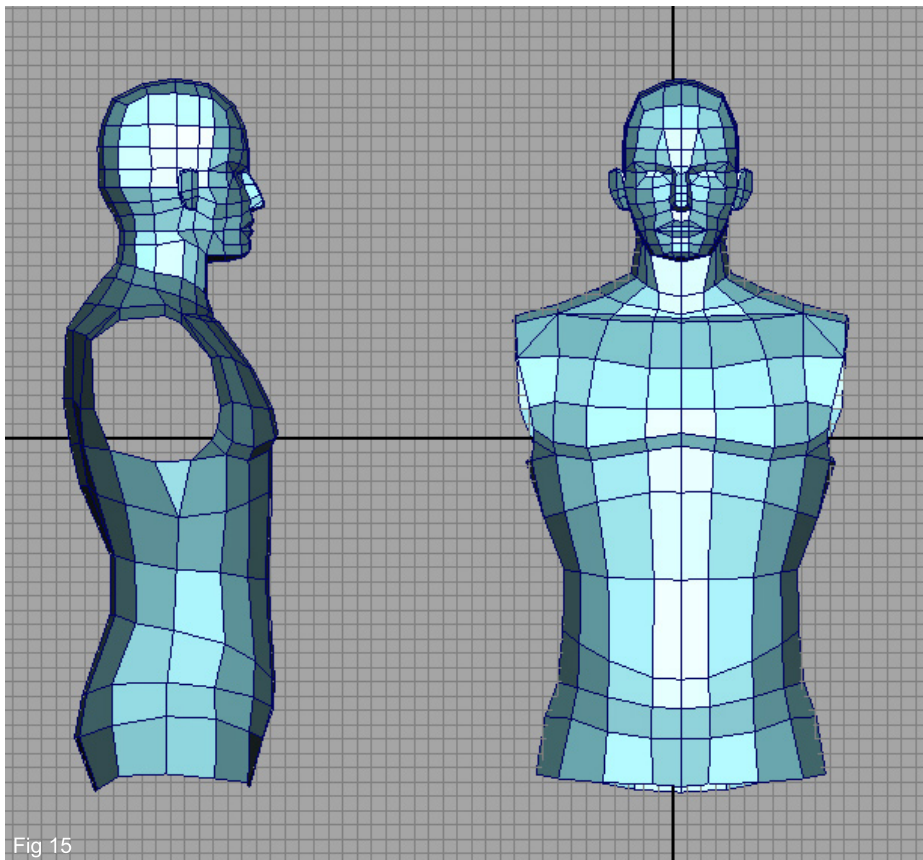

Fig 15
15. Next thing we have to do is to reshape the lower part of the torso by moving the verts until the result is like in "Fig 15".